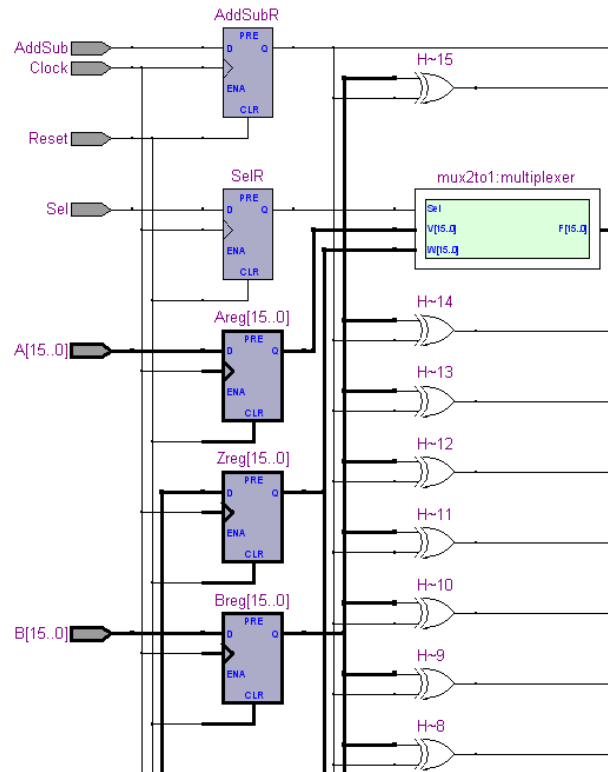

Figure 29: An enlarged view of the circuit.
2. Use the Zoom Tool, located in the left hand toolbar, to enlarge the image and view the upper-left portion of the circuit, as illustrated in Figure 29. Note that individual flip-flops are used for the *AddSub* and *Sel* signals. Sixteen-bit vectors *A* and *B* are denoted by heavy lines connected to the registers, *Areg* and *Breg*, which are indicated as heavily outlined flip-flop symbols. The *Zreg* register is drawn in the same manner as *Areg* and *Breg*.